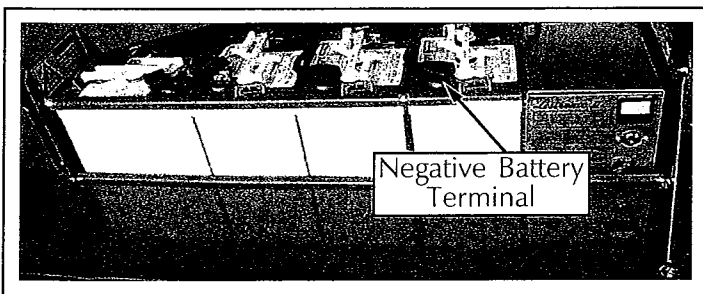

Figure 2-1: Power Module, Left Side
5. Connect the negative battery cable to the terminal (Figure 2-1).
2. Disconnect the negative (-) battery cable from the battery terminal (Figure 2-1).